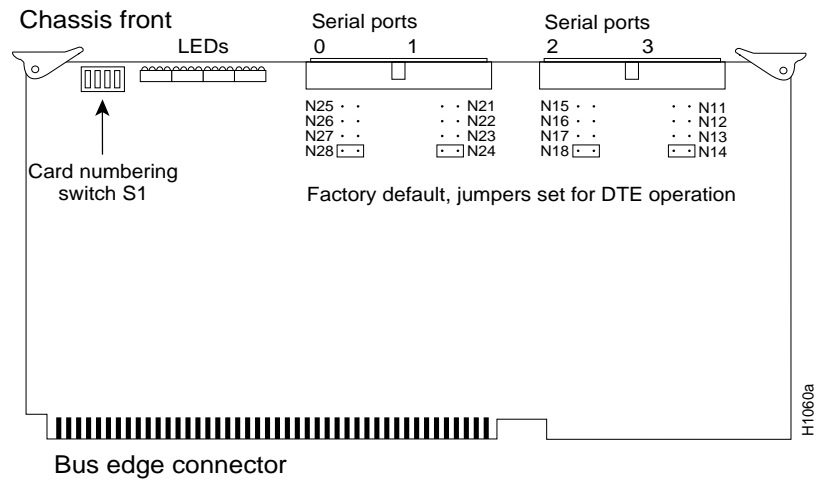
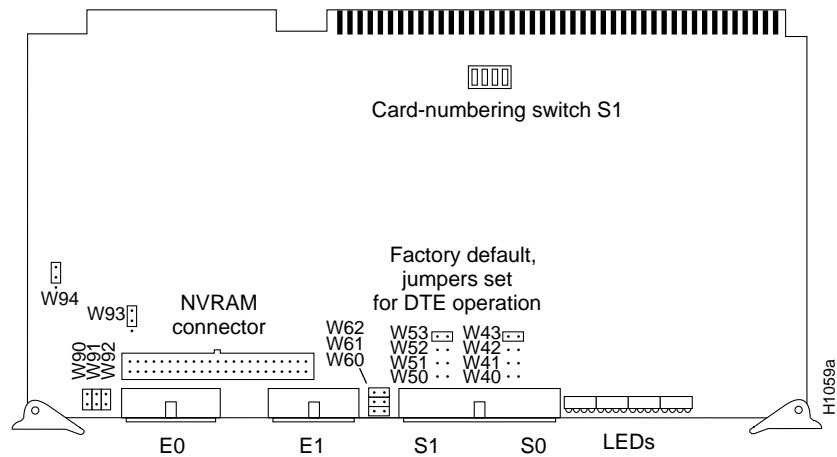

Figure 4 CSC-SCI Card and Jumpers Set for DTE Operation
Figure 5 CSC-MCI Card and Jumpers Set For DTE Operation
The unit numbers of the CSC-SCI and CSC-MCI cards must be unique. Unit numbers are assigned by setting a dip switch (S1) which is located in the upper left corner of the CSC-SCI card, next to the bank of LEDs, as shown in Figure 4 (the switch is actually on the front edge of the card when viewed with the card installed in the card cage).
Figure 5 shows the CSC-MCI card jumpered for DTE operation.
- Step 2:** Ensure that the jumpers on the SCI or MCI card are set for DTE by comparing them to Figure 4 and Figure 5.